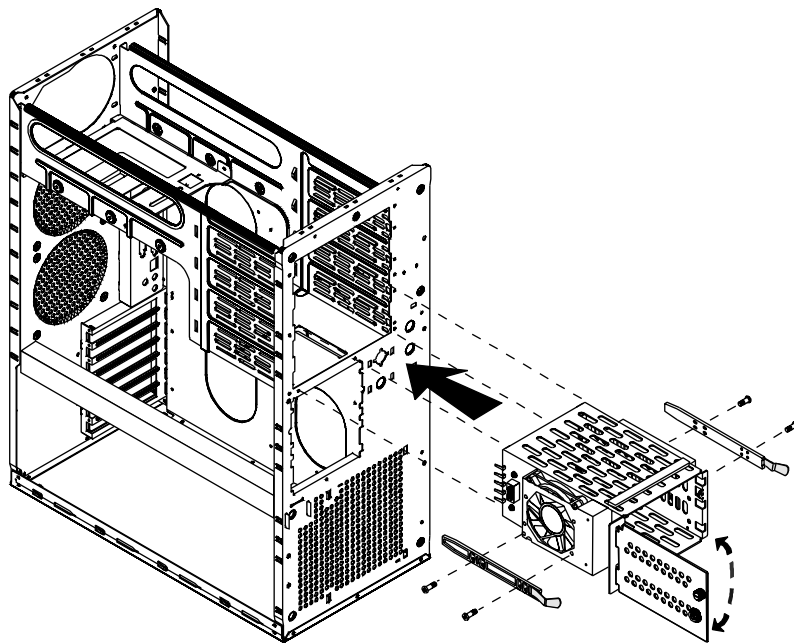

Figure 29: Installing the RAID Cage
1. Slide the new drive cage into the drive bracket as shown in Figure 29.